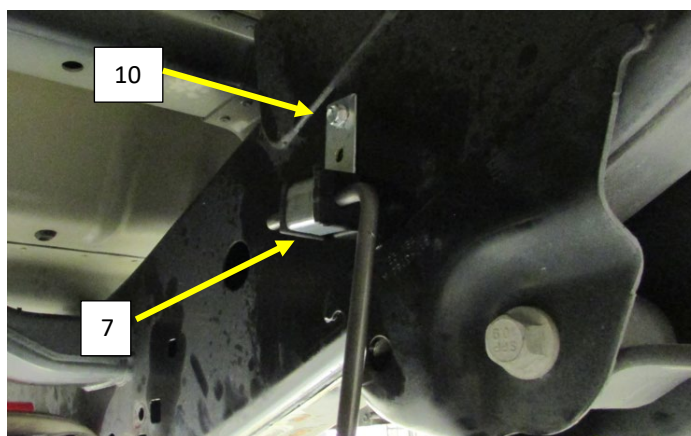

Figure.6
9. Install the universal hanger (7) on to the tail pipe hanger rod with the metal tab facing up. **Fig.6** ***Do not install the self-threading bolt.**
11. Adjust the exhaust so the universal hanger rests flat against the frame rail. **Fig.6**
13. Drill the frame for the top mounting hole in the universal hanger bracket (7) using a 17/64 drill bit.
14. Install a supplied self-threading 5/16 bolt (10) in the top hole. **Fig. 6**